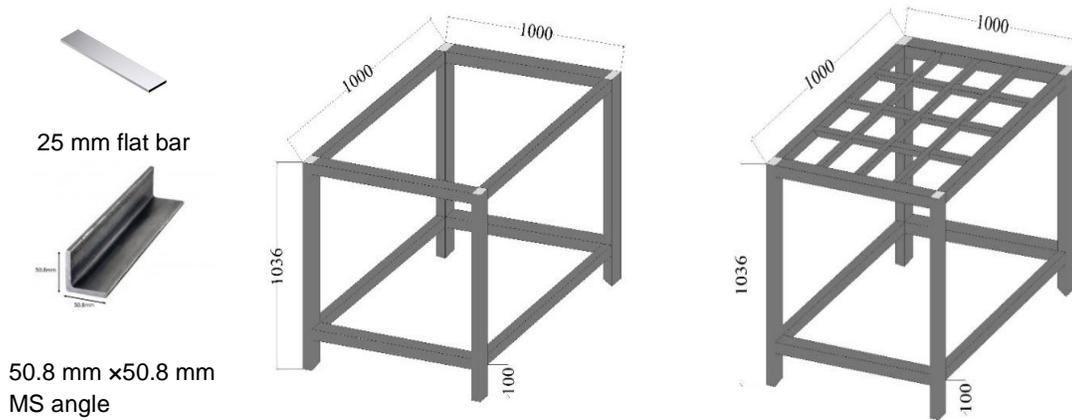

Figure 5 : Process of MS angle frame making with dimensions
- Make a frame with 50.8 mm x 50.8 mm MS angle. The size of the total frame is 1000 mm x 1000 mm x 1036 mm (Figure 5)
- Add 25 mm MS flat bar bracing for supporting water tank at top. (Figure 5)